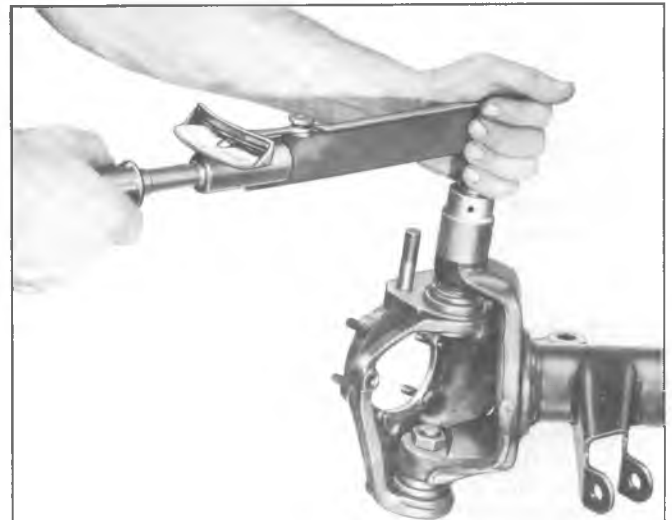

Fig. 33—Torquing Upper Ball Socket Nut
- Torque the upper ball socket nut to 100 ft. lbs. as shown in Figure 33. After torquing the nut, do not loosen to install cotter pin, apply additional torque, if necessary, to line up hole in stud with slot in nut.